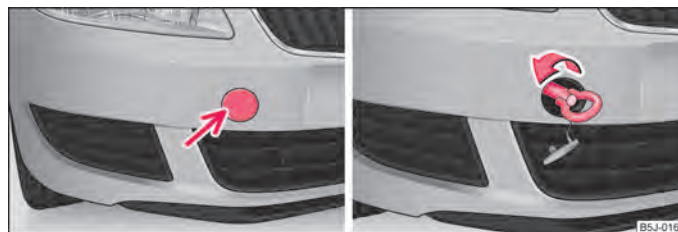

Fig. 149 Front bumper: Cover/installing the towing eye
- Press on the left half of the cover at the point of the arrow ⇒ fig. 149 - left.
- Screw in the towing eye by hand to the left up to the stop ⇒ fig. 149 - right. For tightening, we recommend that you use for example the wheel wrench, the lashing eye of another vehicle or a similar object which you can push through the eye.